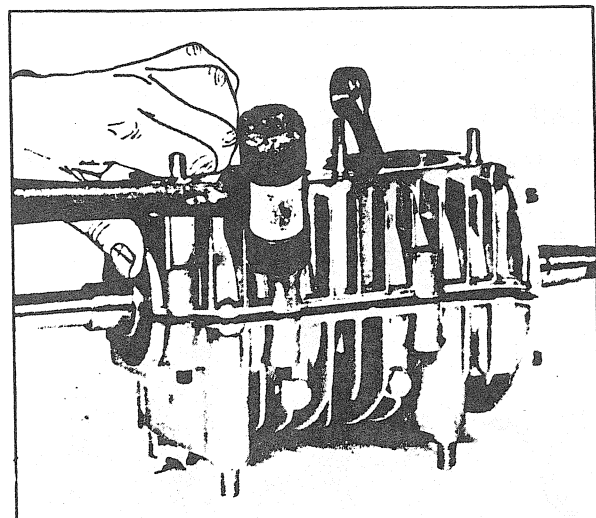

FIGURE 22
- Gently tap with a soft faced hammer, the crankcase halves on the reinforced bolt section of the halves to separate them. (fig. 22).